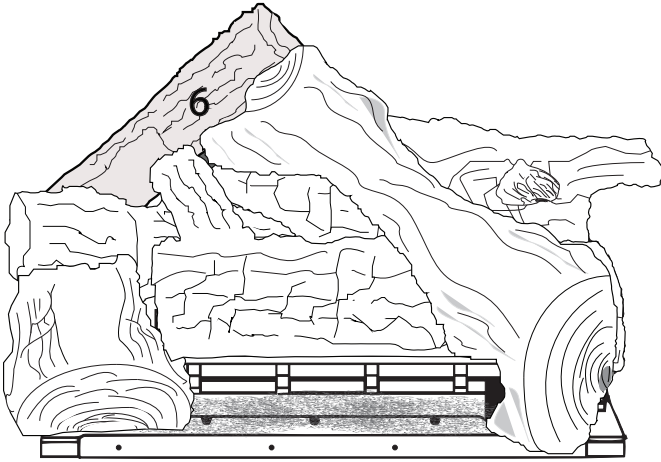

Figure 25 - Log #6 Placement
- Place Log #6 by lining up the locating pins that are on Log #1 and Log #2 with the slots on the bottom of Log #6. When in place, Log #6 will be leaning on Log #5. See Figure 25.